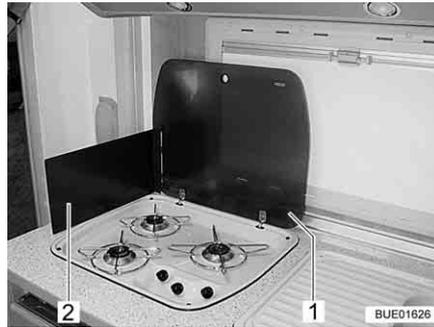

Fig. 215 Gas cooker
- Open the gas cooker lid (Fig. 215,1).
- Depending on the model, either fold out or set up the flame protection (Fig. 215,2).